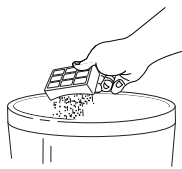

Fig. 23
- 3** Turn the filter over so that the dirty side is on the bottom and vigorously tap it clean against a garbage can to remove any dust. (**Fig. 23**)